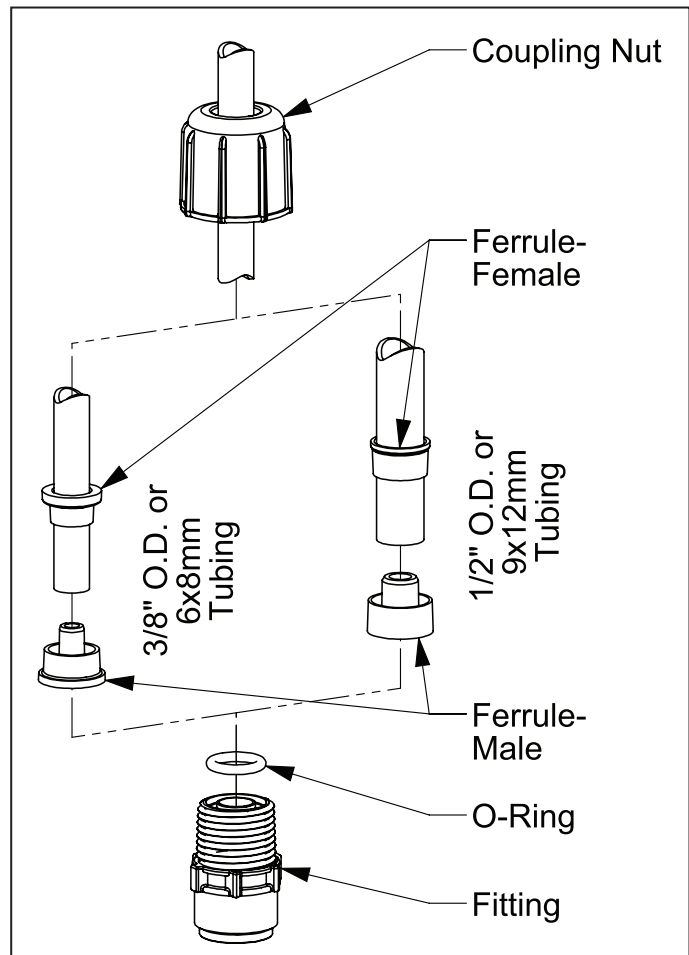

Figure 2
- 2b. For 3/8" or 1/2" OD tubing: Position a Female Ferrule about one inch (25 mm) from end of tubing. Orient the raised collar of the Female Ferrule toward the Coupling Nut. Then, insert the Male Ferrule onto the end of the tube, pushing the tube into the bottom of the groove in the Male Ferrule. Then slide the Female Ferrule down the tubing and with your fingers, press tightly into the Male Ferrule (reference *Figure 2*).